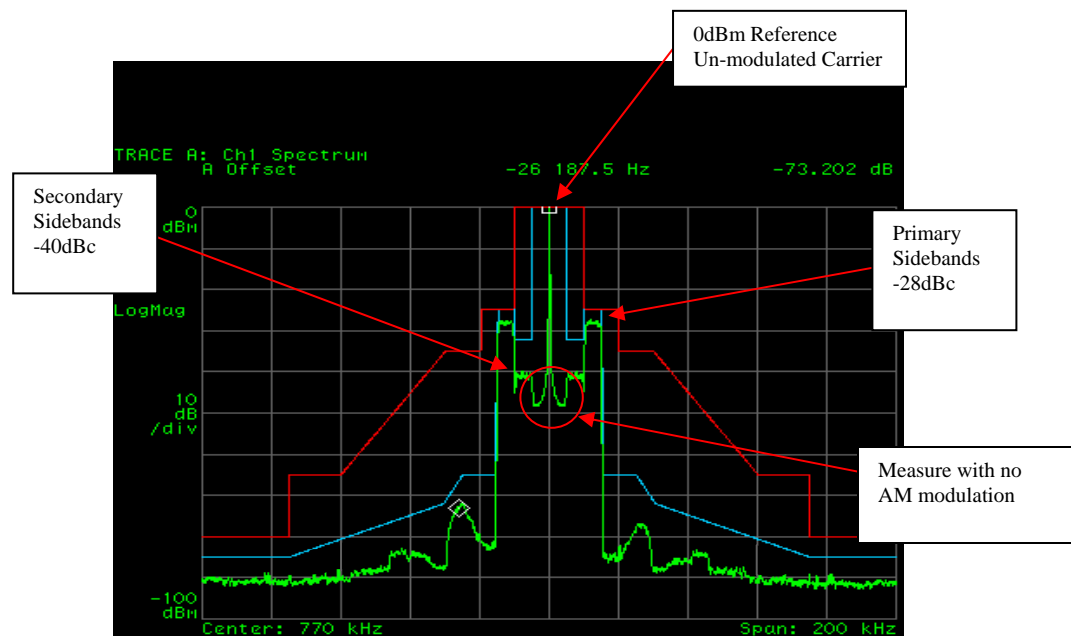

Figure 54 - 0dBm reference (Aligned AM IBOC Transmitter)
Step 9 – View spectrum and if spectrum is similar to **Figure 54** and within the mask, no further adjustments are needed. If the transmitter does not meet the mask, proceed to **Section 12.5.2**.
Verify that the spectrum is similar to **Figure 54** and within the mask.
Verify that the spectrum is similar to **Figure 54** and within the mask. Also verify positive and negative peak modulation levels on the front of the transmitter.
Disconnect the transmitter from the 50Ω test load and connect to the antenna system. Monitor the spectrum and ensure it is similar to **Figure 54** and within the mask. If the spectrum is not within the mask proceed to the next section.